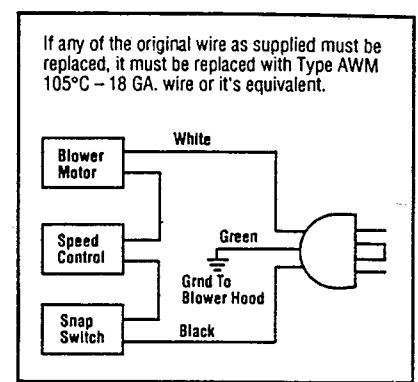

Figure 28
Route a 3-wire, 120Vac power line to a standard wall outlet located near the lower left rear corner of the appliance. Make connections to the receptacle as shown in Figure 28.
**Important:** Ground lead must be connected to the blower hood (Figure 28). Failure to do so will prevent the appliance from operation. The appliance must be electrically grounded in accordance with local codes or, in the absence of local codes, the National Electrical Code, ANSI/NFPA 70-1987. (In Canada, the current CSA C22 C22-1 Canadian Electrical Code).
The Forced Air Kit with its blower and variable speed switch provides a forced air circulation feature for your appliance. This kit mounts directly into the lower intake chamber with an electrical connection made at the wall receptacle. The appliance must have an independent 120Vac power line incorporated at the time of installation. Refer to Step 5 and the installation instructions supplied with the forced air kit. (Figures 28 and 35).